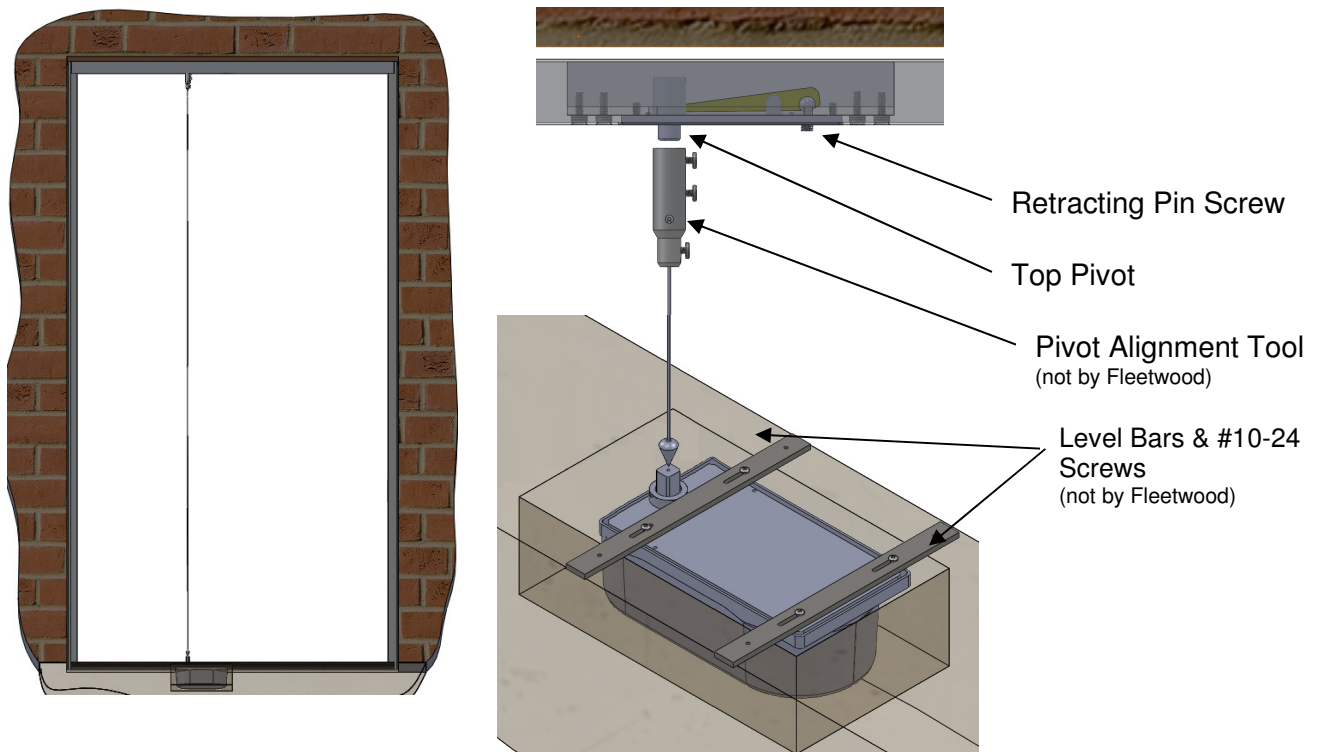

Figure 9:
4. Use a plumb line to center top pivot pin with center of closer spindle (Figure 9).